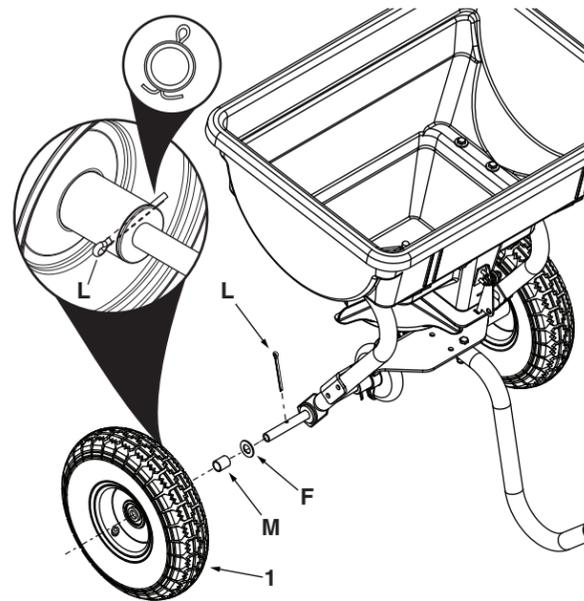

Figure 11
STEP 11: (SEE FIGURE 11)
- Attach the other wheel to the left side by sliding onto the axle, a 17/32" washer (F), a plastic spacer (M) and a wheel (1). Secure the wheel to the axle by inserting the 2" cotter pin (L) through the hole in the inside of the wheel and through the axle. Secure by bending the ends out.